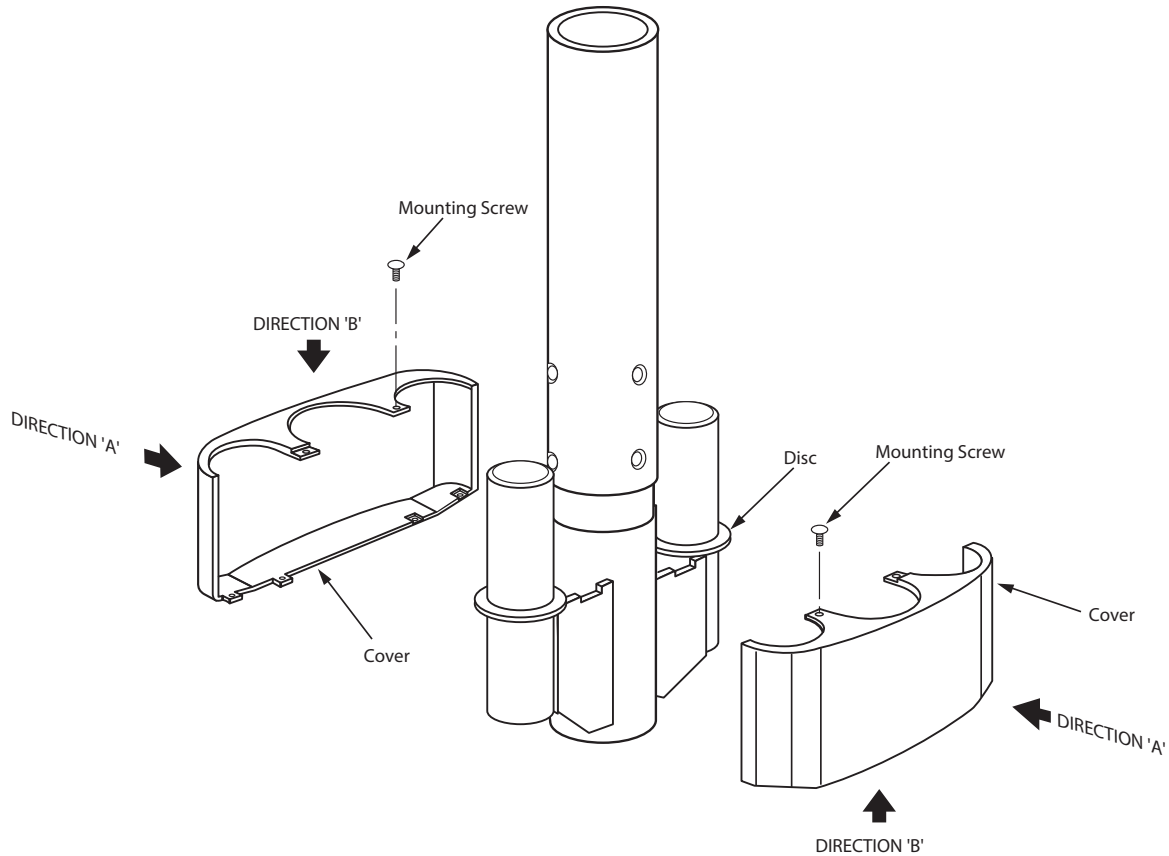

Figure 3 Securing Plastic Cover to the Ceiling Column
7. Following installation of the ceiling column, carefully slide the canopy upward until it rests against the ceiling, and secure the three (3) set screws.
D. Securing the Plastic Cover to the Ceiling Column (Figure 3)
1. To avoid damage to the lower plastic cover during shipping, the two halves comprising the cover (Figure 3) must be attached on-site. To ensure proper installation of the cover, please complete the following steps.
3. Carefully remove the mounting screws (Figure 3) from the nut clips making sure to store them in a safe place for use in step 5 below.
4. Attach the two halves of the cover below the two disc (Figure 3). Carefully fit both halves of the cover together and click the pegs into the grooves provided. Make sure both halves align completely and the tabs on the top surfaces are positioned above the nut clips by gently squeezing them together in direction (B) (Figure 3). Once the height of both halves is level, gently squeeze them in direction (A) (Figure 3) and snap the halves together.
5. To secure the plastic halves to the column, insert and tighten the mounting screws (Figure 3) into the nut clips provided.
1. Remove the two screws (Figure 3) from the plastic halves and store in a safe place.
2. Gently separate the plastic halves near the top, again without applying much force, in direction opposite to (A) (Figure 3).
3. Separate the pegs from the grooves by gently twisting and pulling in the direction opposite to (A) (Figure 3).
5. Following the removal of the plastic halves, insert the screws (Figure 3) into the nut clips provided.